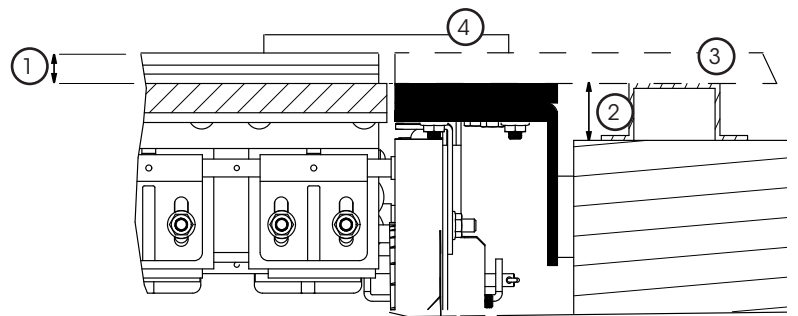

Fig: 2.1.2
Before fixing, check the frame position relative to the cladding support system ② as per Fig 2.1.2.
- Place a sample piece of cladding (3) or substitute that is same depth as measurement (1) on top of frame. See Fig 2.1.2.